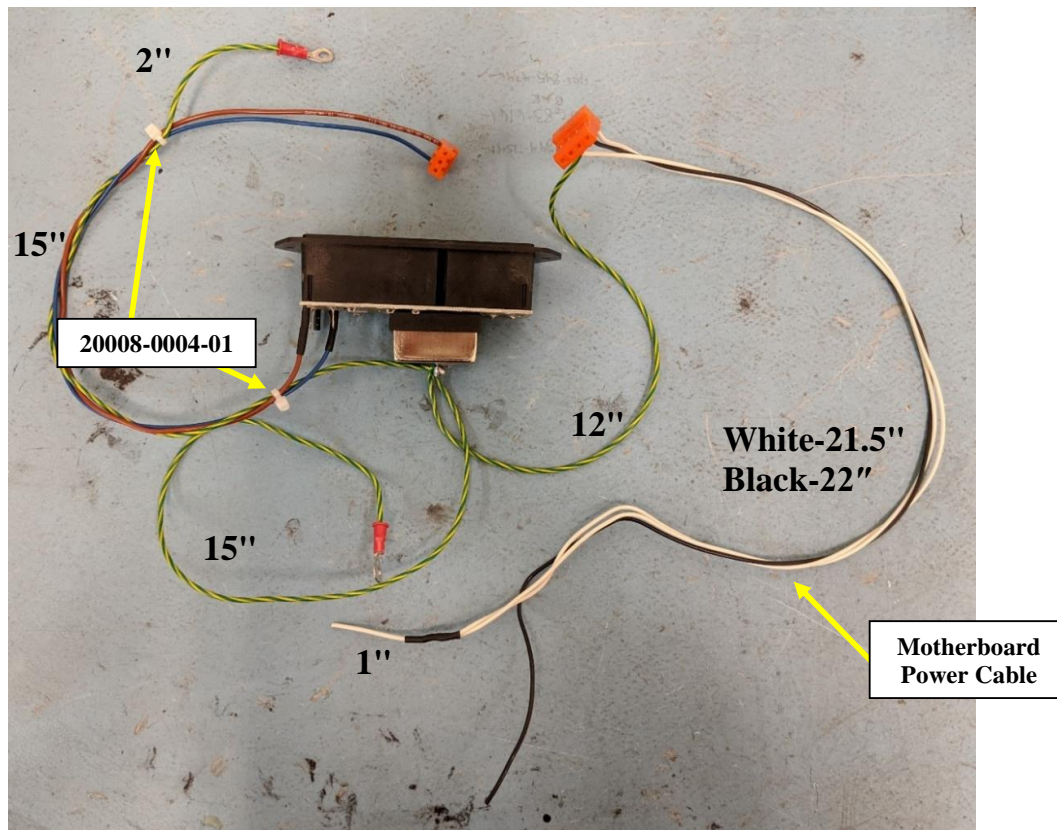

Figure 13
- 8.11. Attach two (2) 4" Tie Wraps (20008-0004-01) connecting the three 15 inch wires together. Place the tie wraps two inches from the Ring Terminal and 6 inches from the first tie wrap as shown in Figure 13.